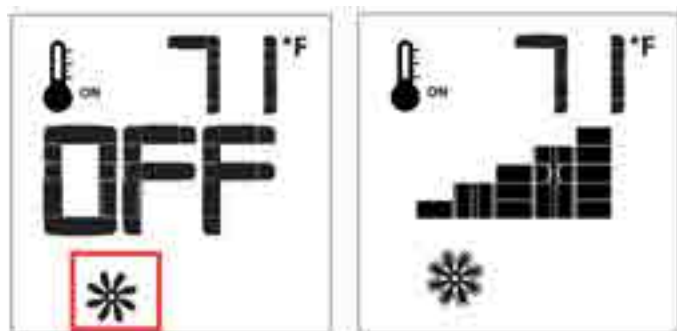

Figure 29l. Fan Speed Control
The fireplace is equipped with optional hot air circulating fans. The speed of the fans can be controlled by the Proflame system. The fan speed can be adjusted through six (6) speeds. To activate this function use the Mode Key, see Figure 29, to index to the fan control icon, see Figure 29l. Use the Up/Down Arrow Keys to turn on, off, or adjust the fan speed. A single "beep" will confirm reception of the command.